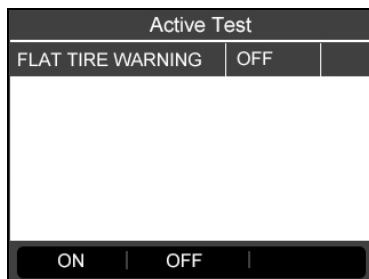

Figure 4.38
- 4) Press the corresponding **FUNCTION** button “**ON**” or “**OFF**” to check whether the TPMS warning lamp on the vehicle is turning on or off. (Figure 4.38)